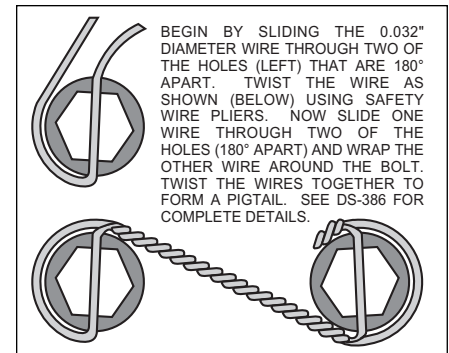

Figure 4. Safety Wire Diagram
- Slide the caliper mounting bracket kit assembly (1) onto the housing flange and then insert the axle assembly through the center hole of the caliper mounting bracket assembly (1) and secure using the stock Original Equipment Manufacturer (OEM) bolts and nuts. Stock OEM hex nuts that retain the caliper mounting bracket assembly (1) should be on the wheel side of the bracket. Apply red *Loctite*® 271 to the stock OEM bolt threads and torque to OEM specifications. Make sure the heads of the caliper mounting bracket assembly (1) insert nuts are **FACING OUTWARD TOWARDS THE WHEEL**.
- Align the correct hole pattern in the rotor (2) with the stud pattern on the axle flange. **NOTE:** Some OEM and after market axles come with stud sizes larger than 0.50" diameter. Verify stud size and have a qualified machine shop drill the bolt circle of the rotor to the correct stud size, if necessary. Slide the rotor (2) over the wheel studs covering the mounting bracket assembly (1) and against the axle flange face.
- **NOTE:** Please reference the caution statement at the beginning of the assembly instructions. **WITH THE BLEED SCREWS POINTING UP**, mount the caliper (3) over the rotor (2) and onto the caliper mounting bracket (1) using lock washers (4) and mounting bolts (5). View the rotor through the top opening of the caliper. The rotor should be aligned in the center of the caliper. If not, adjust the caliper by using 0.032 inch shims (6) by placing them between the caliper mounting bracket (1) and the caliper (3). Apply red *Loctite*® 271 to the mounting bolt threads (5), torque to 30 ft-lb. Safety wire the caliper mounting bolts (5) using standard 0.032 inch diameter stainless steel safety wire as shown in Figure 4. Please refer to Wilwood's data sheet DS-386 (available at www.wilwood.org/ds386.pdf) for complete safety wire installation instructions.
- Position the Wilwood disc brake pads (7) into the caliper (3) and fasten with cotter pin (8). Steel backing plate side of brake pad should face the caliper pistons.
- Before final installation of the wheel, install a couple of lug nuts and adjust the parking brake shoes outward (using a drum shoe adjustment tool available at your local auto parts store) while spinning the rotor/hat (2) until a slight drag is felt again the hat/drum.